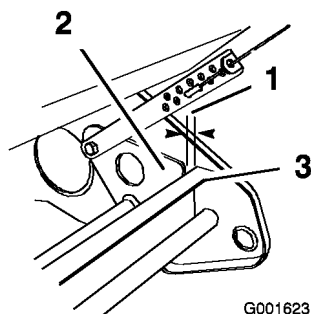

Figure 24
2. Ensure that the distance between the pivot plate and the wheel frame is 0 to 1/8 inch (0 to 3 mm) (Figure 24).